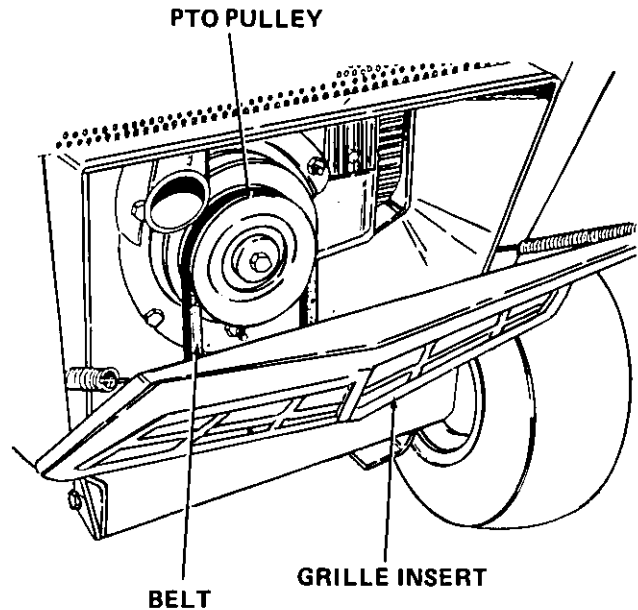

Figure 23
- a. FOR TRACTORS WITH SERIAL NUMBER 799,999 AND BELOW ONLY, remove grille insert as follows. Pull top of grille insert forward as shown in Figure 23. Lift grille insert up removing tabs from bottom of grille housing. Lower grille insert so springs rest on bottom of grille housing. Roll belt onto PTO pulley on front of tractor.